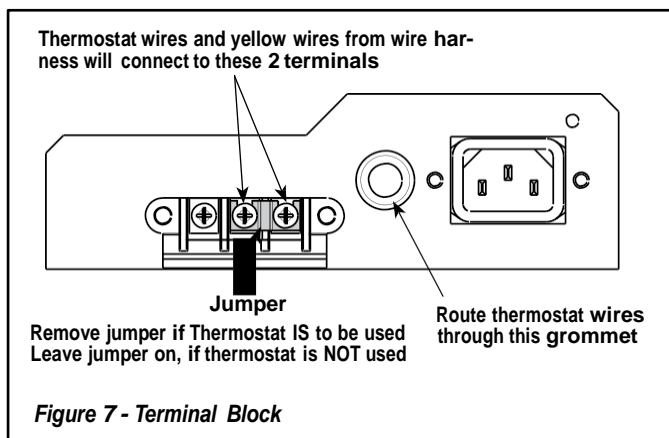

Figure 7 - Terminal Block
- Q Plug power cord connector into corresponding connector on the back of appliance (see **Figures 7 and 8** showing connector locations).
2. Locate the thermostat terminal block (see **Figures 7 and 8**).